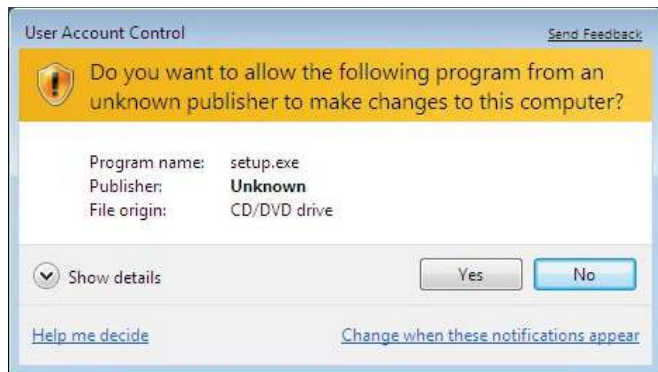

Figure 3. AD7173-8 User Account Control Permission Dialog Box
3. A dialog box appears asking for permission to allow the program to make changes to the PC. Click **Yes** to proceed (see Figure 3).